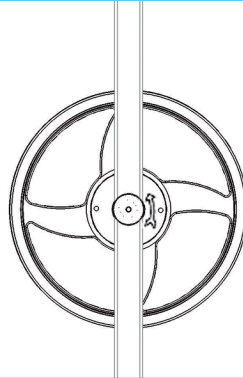

fig. 9
- check that the protection devices (fuses, magnetothermic switches) are correctly sized, and that the phases are connected in the correct order: check that the fan rotates in the direction of the arrow shown on the driven pulley (see fig. 9).